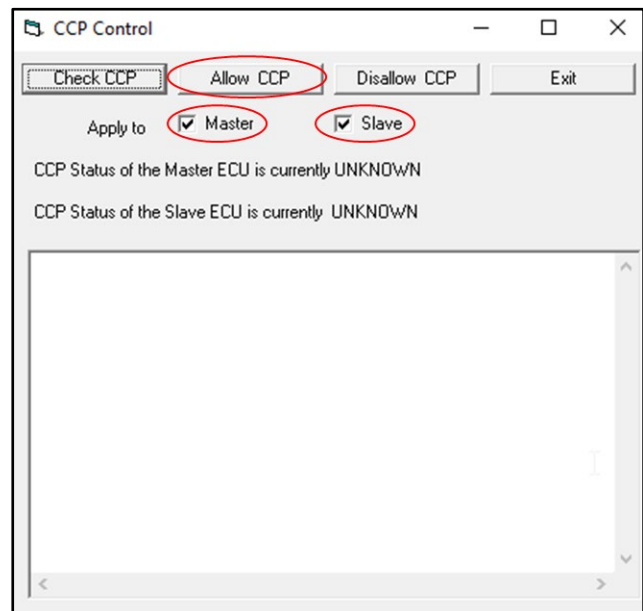

Figure 29
8. Make sure that "Master" and "Slave" are both selected (refer to Figure 29). Click "Allow CCP".